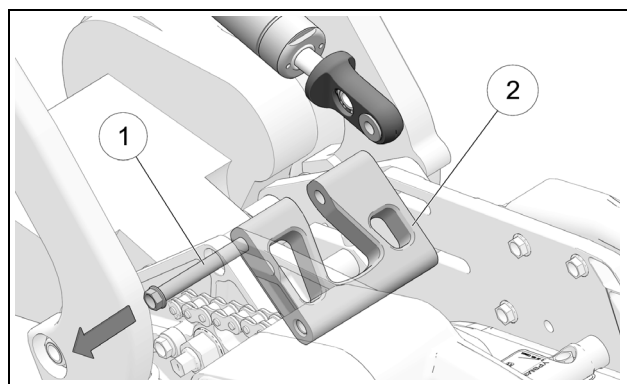

Figure 27
- Loosen and remove bike mount bolt (1) to install the Soft Strut in the Strut block (2). See Figure 27.